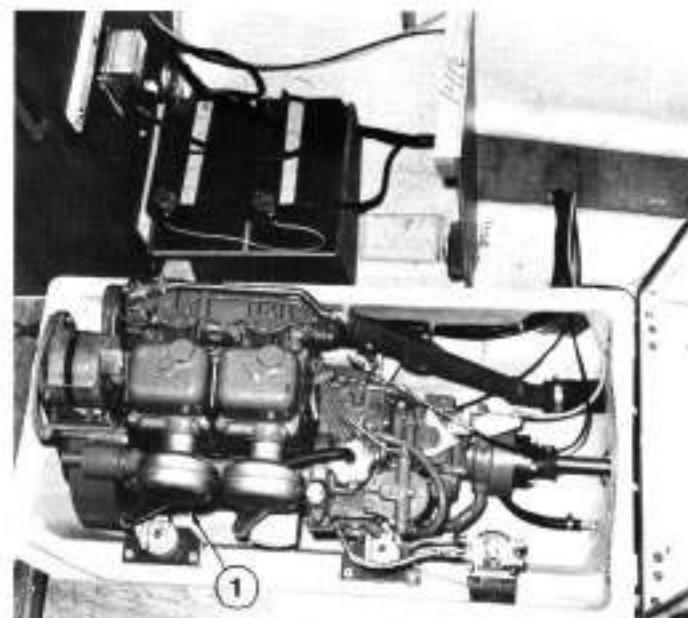

Fig. 2. Engine installation and batteries.
ENGINE INSTALLATION (see fig. 2)
The MD2B engine has separate lubricating oil filling and dipstick for engine and reduction/reverse gear. See fig. 2–4.
1. Remove the helmsmans seat. Remove the floorboards and the floor over the battery box (under the helmsmans seat). Unfasten the clasps on the engine cover and fold it aft (fig. 2).